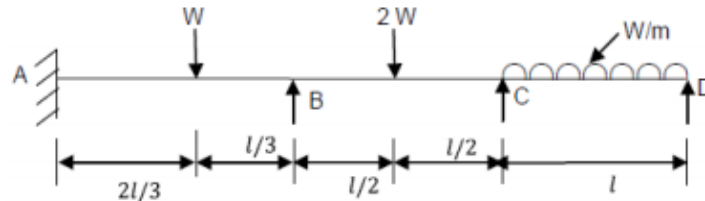

Figure 4
- 10 Find out the collapse load for the continuous beam shown in figure 4.